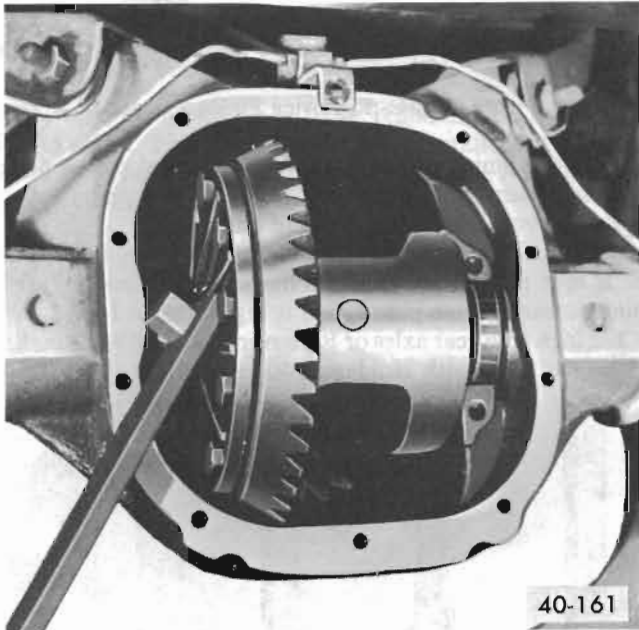

Figure 40-119 Removing Differential Case Assembly
9. Differential case assembly can now be removed by prying against ring gear bolt, using a suitable pry bar. See Figure 40-119. Remove case assembly and place right and left bearing outer races and shims in sets with marked bearing caps so that they can be reinstalled in their original positions.